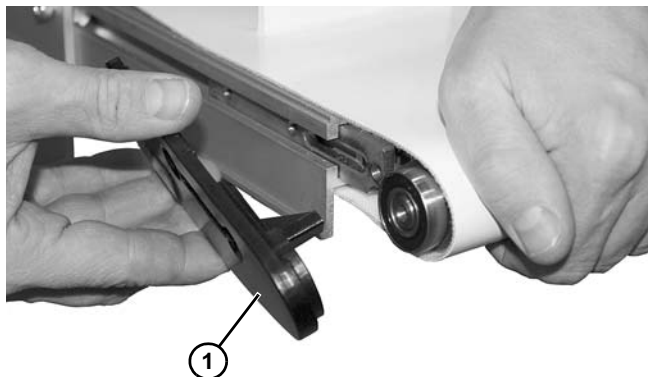

Figure 45
2. Place the head plate (**Figure 45, item 1**) and attach the head plate to the conveyor frame with the two (2) screws removed and hand tighten.